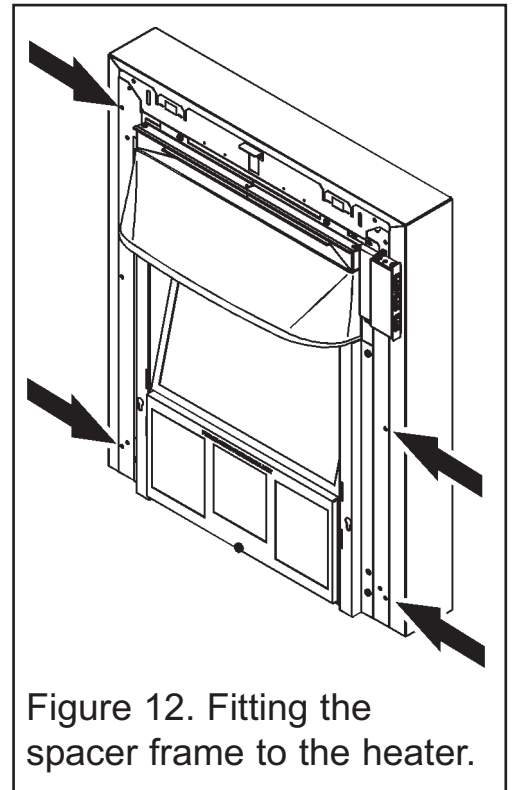

Figure 12. Fitting the spacer frame to the heater.
1. Secure the spacer frames to the heater using four No.8 x 3/8 screws supplied (See figure 12).